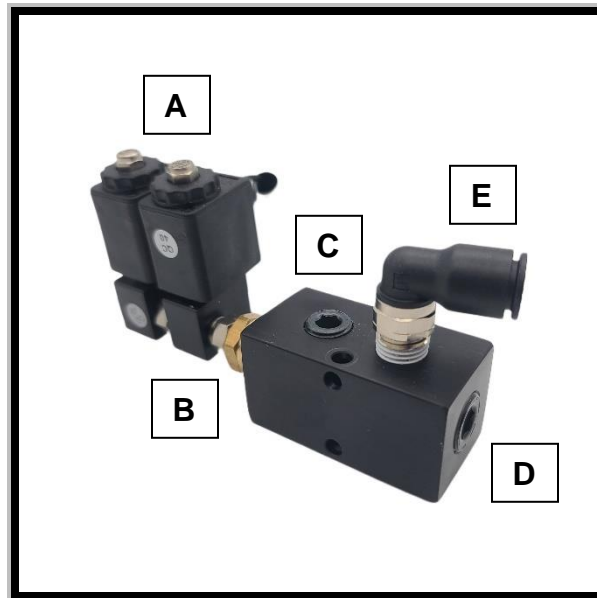

Figure 1
- 1-A) Assembly of the Air Locker Manifold. It is important that all the pieces are assembled as shown in **Figure 1**. The ARB air locker valves will be oriented facing up from what will be the top of the manifold assembly when bolted in place. Assemble your air locker valves (**A**) in series then attach one end to the brass bushing and thread into the manifold. Alternate tightening the brass bushing (**B**) and silver fitting on the ARB air locker valve (**A**) to achieve the correct orientation while ensuring both are tight. Install the 1/4" plug (**C**), 3/8" plug (**D**), and 90 elbow fitting (**E**) and tighten each. Only apply Teflon tape to the items indicated below.